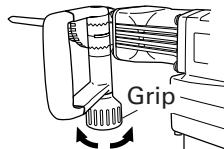

Fig. 6
- (1) Loosen the handle by turning the grip in the direction of **A** as shown in Fig. 6.